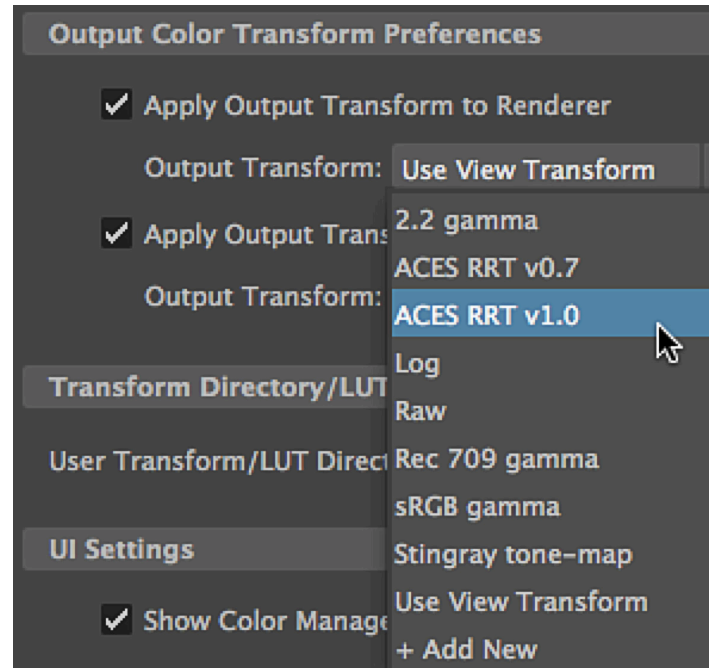

Figure 35
3. Set the default for the Output Transform to match your most-used destination (Figure 35). You can change this destination as needed.